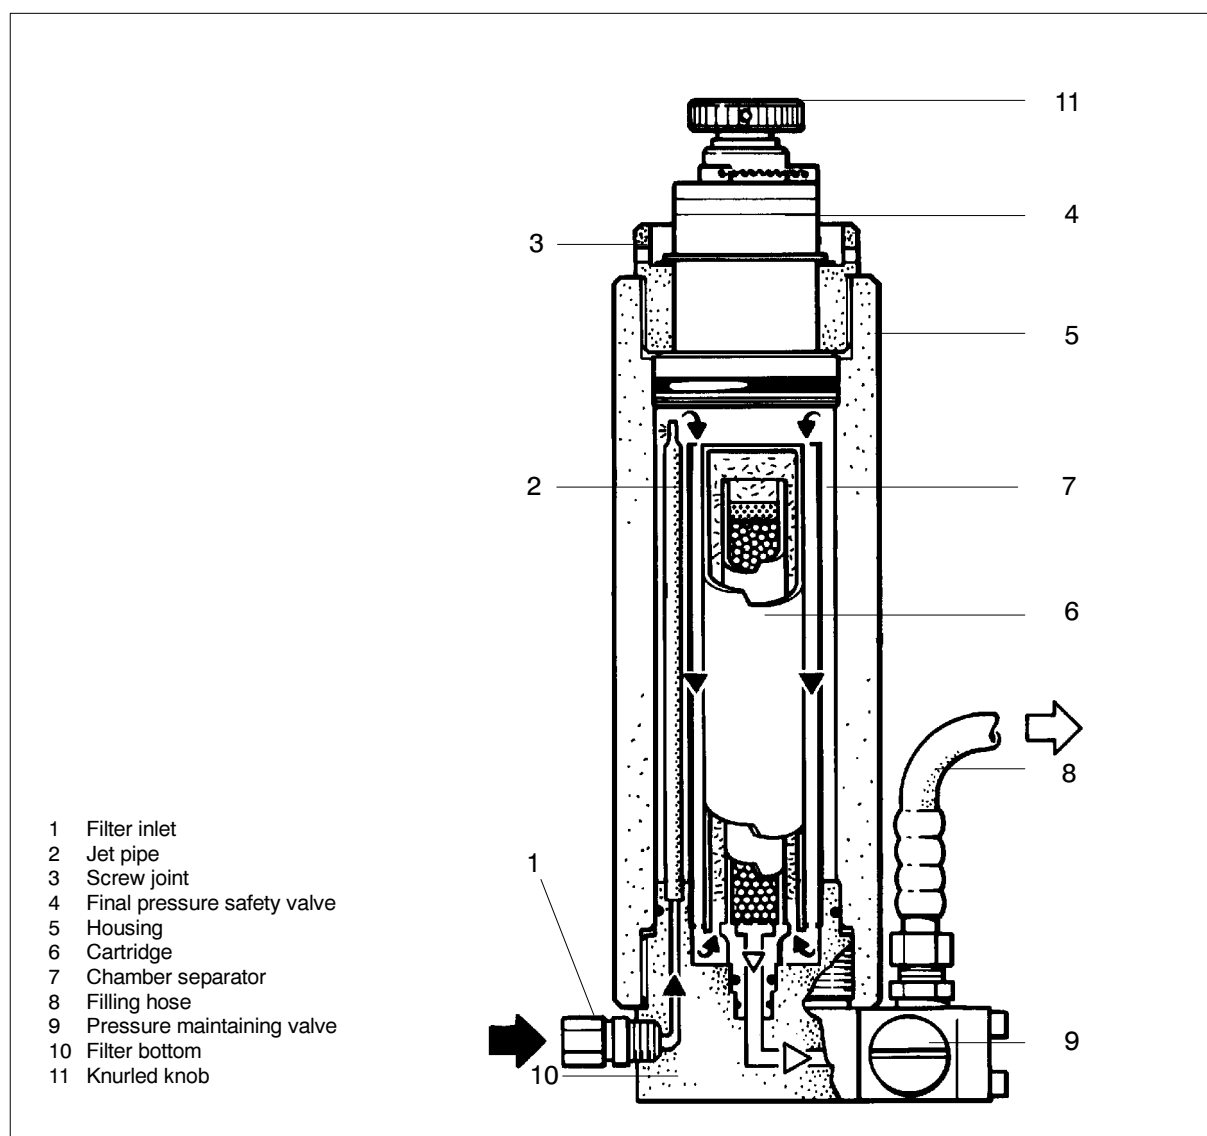

Fig. 13 Filter system P21
Air leaving final stage is cooled in the after-cooler to approx. 10 – 15 °C (18 – 27 °F) above ambient temperature and then enters filter system **P21** with **TRIPLEX** longlife cartridge (Fig. 13). The filter assembly consists of separator and cartridge chamber. In the separator surrounding the cartridge chamber liquid oil and water particles are reliably separated from the compressed medium by a pipe nozzle.
- Unscrew knurled nut (3, Fig. 13) on top of the filter.